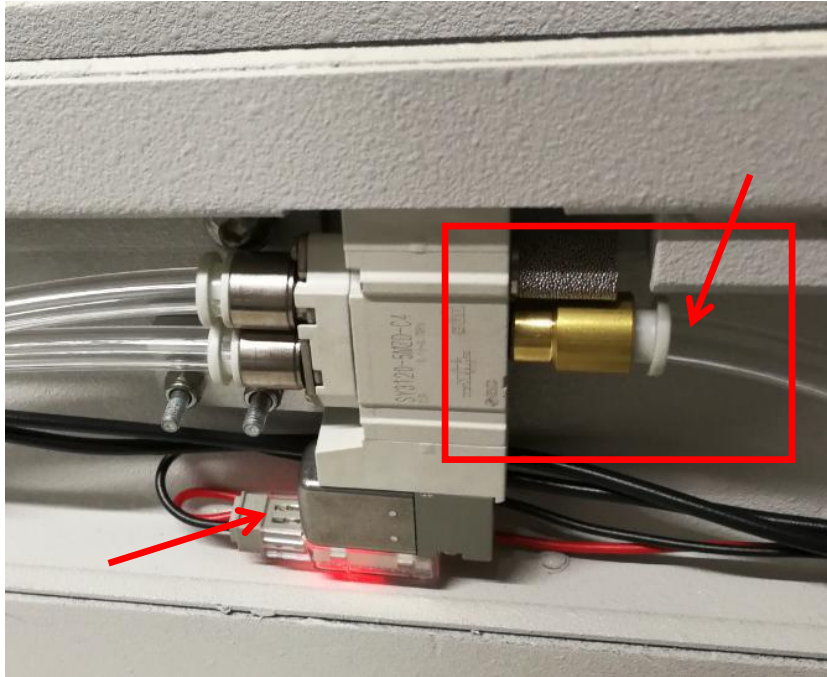

Figure 20
21. Gently plug the other end of tubing into New Outer Barrier Solenoid Valve (Inlet port) & apply cable tie to secure as Figure 20. Connect Input Cable